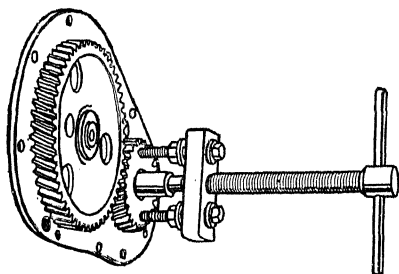
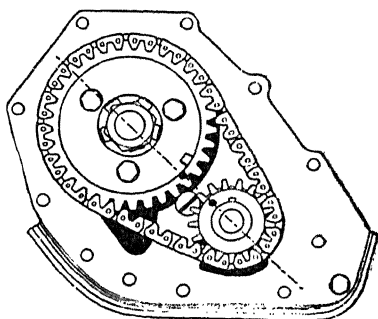

Fig. 6. After the Timing Gear Cover Is Off, Pull the Crankshaft Gear
Fig. 7. Inspect Chains and Sprockets to Learn Method of Marking before Removing Chain or Gears
**Removing Timing Gears.** Make a careful inspection of the timing gears to see how they are marked. Sometimes chains are used in connection with sprockets, rather than the timing gears, illustrated in Fig. 6. If the chain has been used, wipe the oil from it and the sprockets and see whether you can locate the timing marks. These will be apparent in most cases. Refer to Fig. 7, which illustrates this type of construction and one method of marking. When inspecting timing-gear marks, the engine should be placed with piston No. 1 on top dead center, the exhaust valve just closing and the intake valve just starting to open. The marks should then coincide. Cam gears are bolted to the end of the camshaft. As a rule, it is not necessary to remove the cam gear.
The crankshaft gear is, in most cases, a press fit on the end of the crankshaft, a key being used to prevent its turning on the shaft. Fig. 6 illustrates the use of a gear puller. This may be purchased or may be made up, as occasion warrants. Under no circumstances